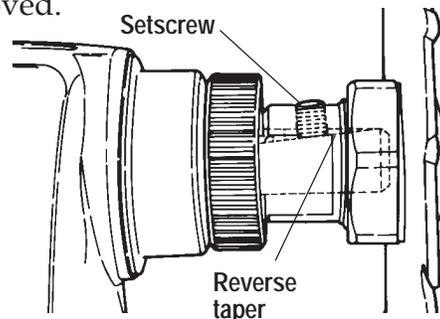

Figure C-77
- a. To properly mount an accessory, push it onto the main spindle **all the way**. Then use a 5/32" Allen wrench to tighten the setscrew against the flat of the spindle. (See Figure C-77.) To make sure the accessory is securely mounted, rock the accessory back and